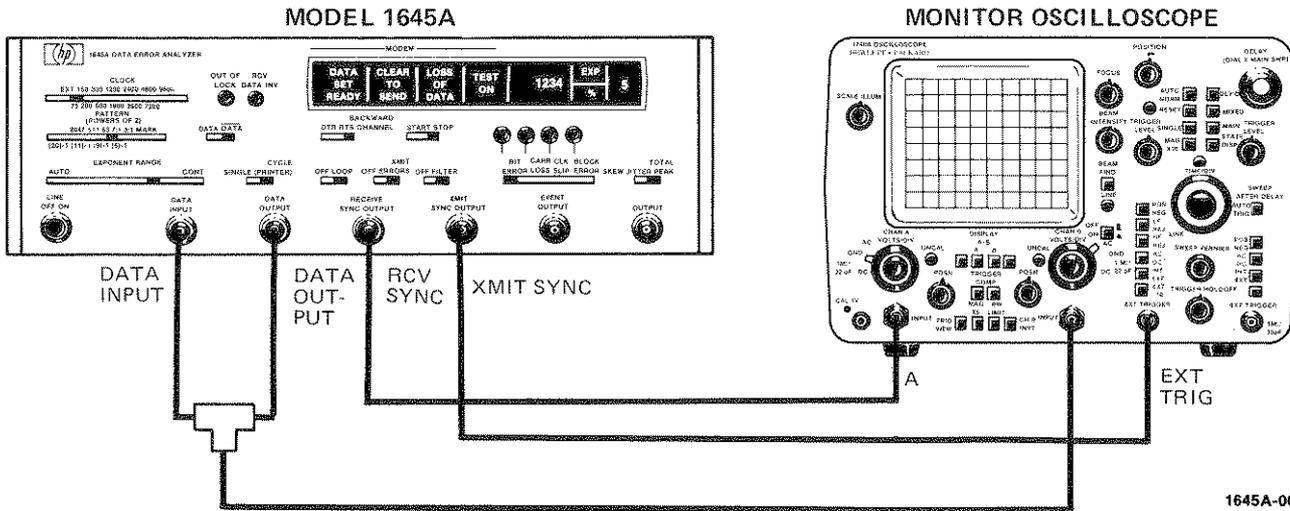

Figure 4-1. Transmit Pattern Test Setup
- a. Connect test equipment as shown in figure 4-1.